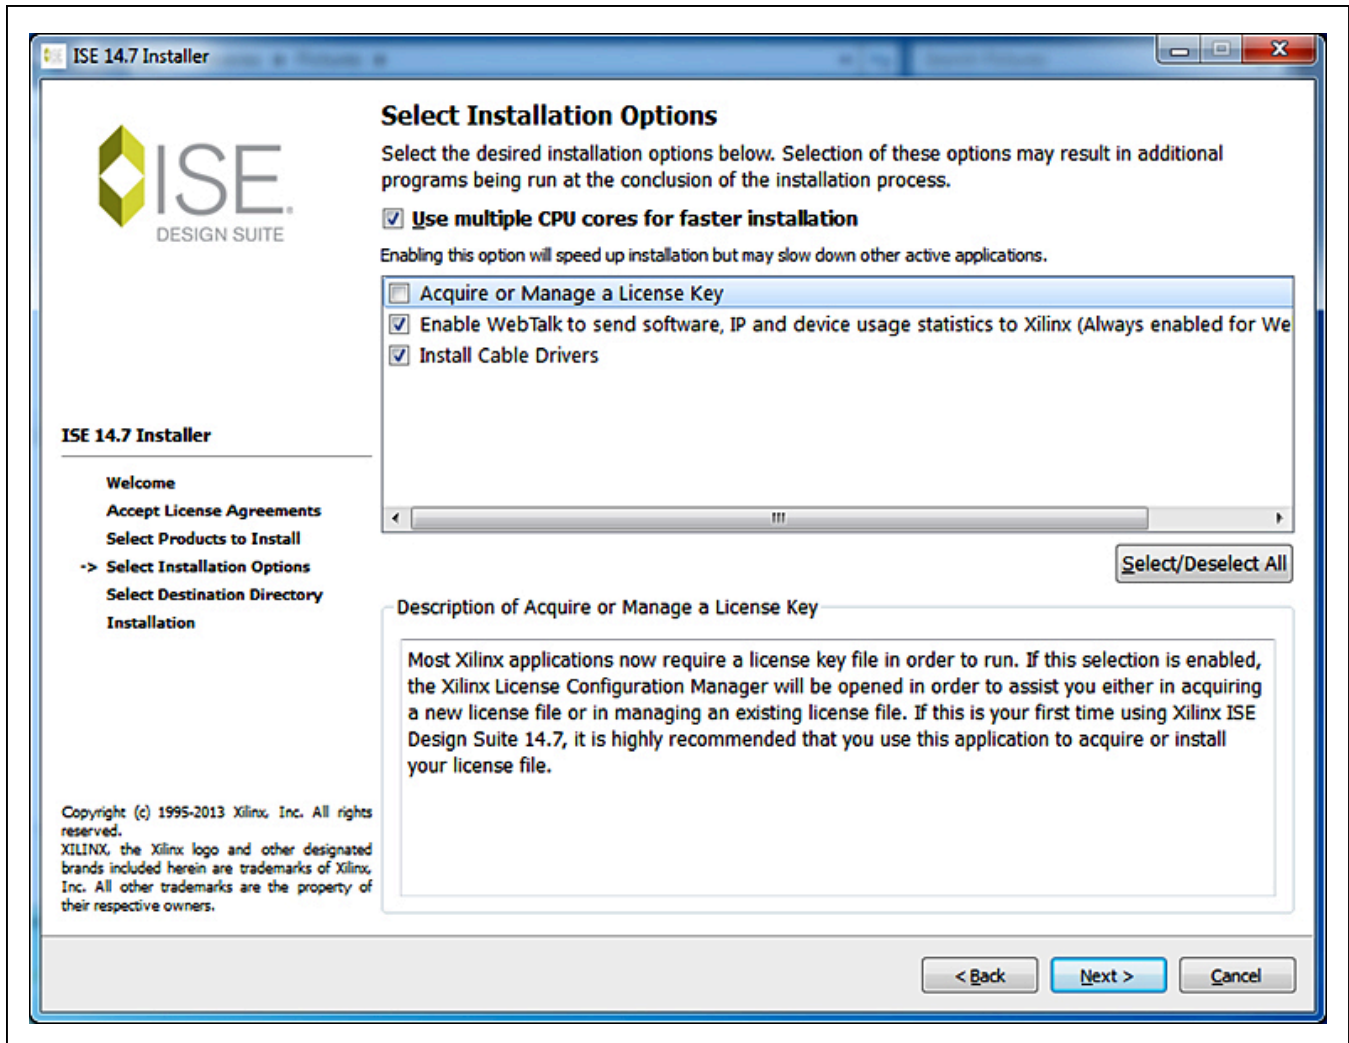

Figure A1-3. LabTools Installation – uncheck “Acquire or Manage License Keys”
- 6) The “Select Installation Options” page will appear (Figure A1-3), **uncheck** the “Acquire or Manage a License Key” option and click Next > to continue